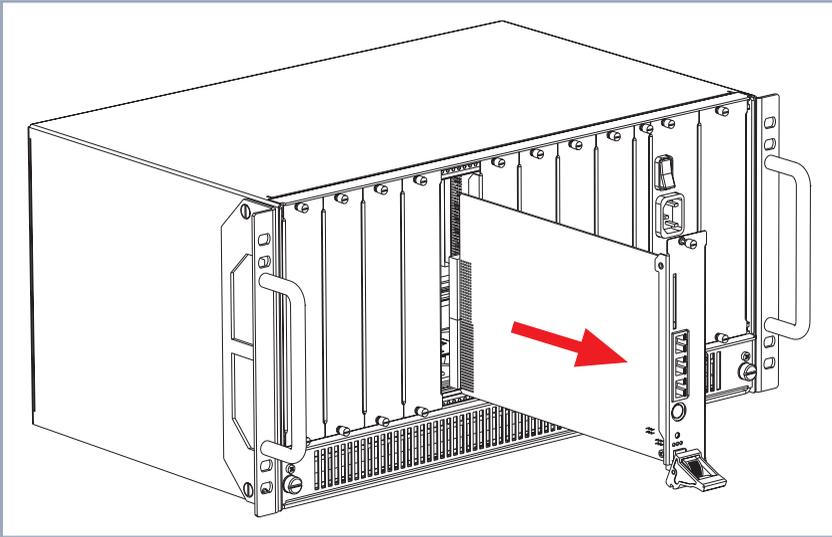

Figure 2-10: Removing an expansion card, step 3
- Draw the expansion card out of the slot as shown in figure 2-10, page 52. The expansion card is removed.
- Draw the expansion card out of the slot as shown in figure 2-10, page 52.